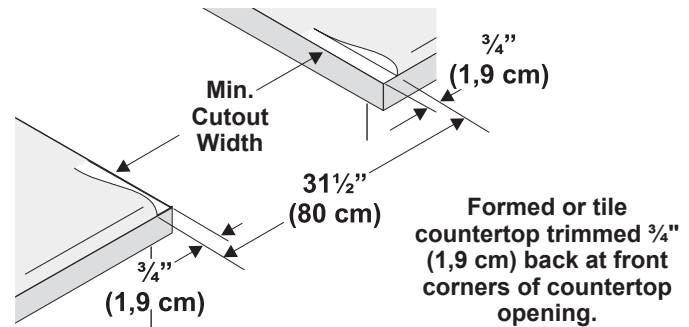

Figure 1
1.2 Countertop Preparation (figure 1)
- Formed front-edged countertops** must have molded edge shaved flat 3/4" (1,9 cm) from each front corner of opening (Figure 1).
- Tile countertops** may need trim cut back 3/4" (1,9 cm) from each front corner and/or rounded edge flattened (Figure 1).